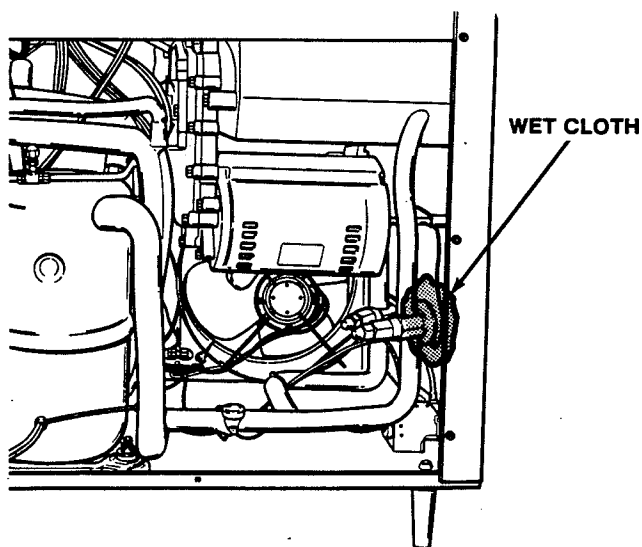

Figure 38. Removal of T.X.V. and Wet Cloth
6. Apply a heat sink (wet cloth) to the valve dome (Fig. 38).